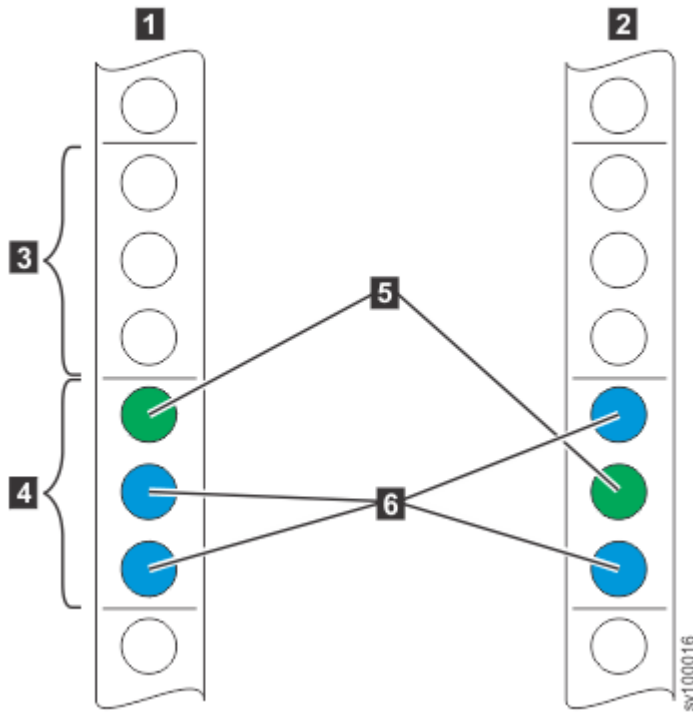

Figure 21. Identifying rack space
2. Select an available 2U space (depending on the node you are installing) in your rack to install your node, as shown in Figure 21 on page 21.